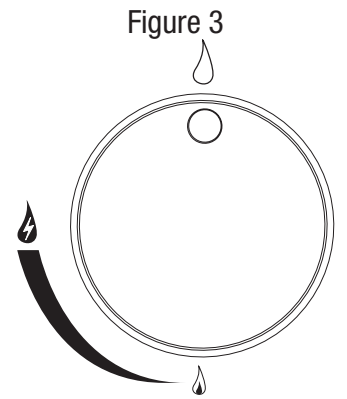

Figure 3
2. Make sure control knobs are Δ (OFF) position. (Figure 3)
3. All control knobs must be in the Δ (OFF) position. (Figure 3)